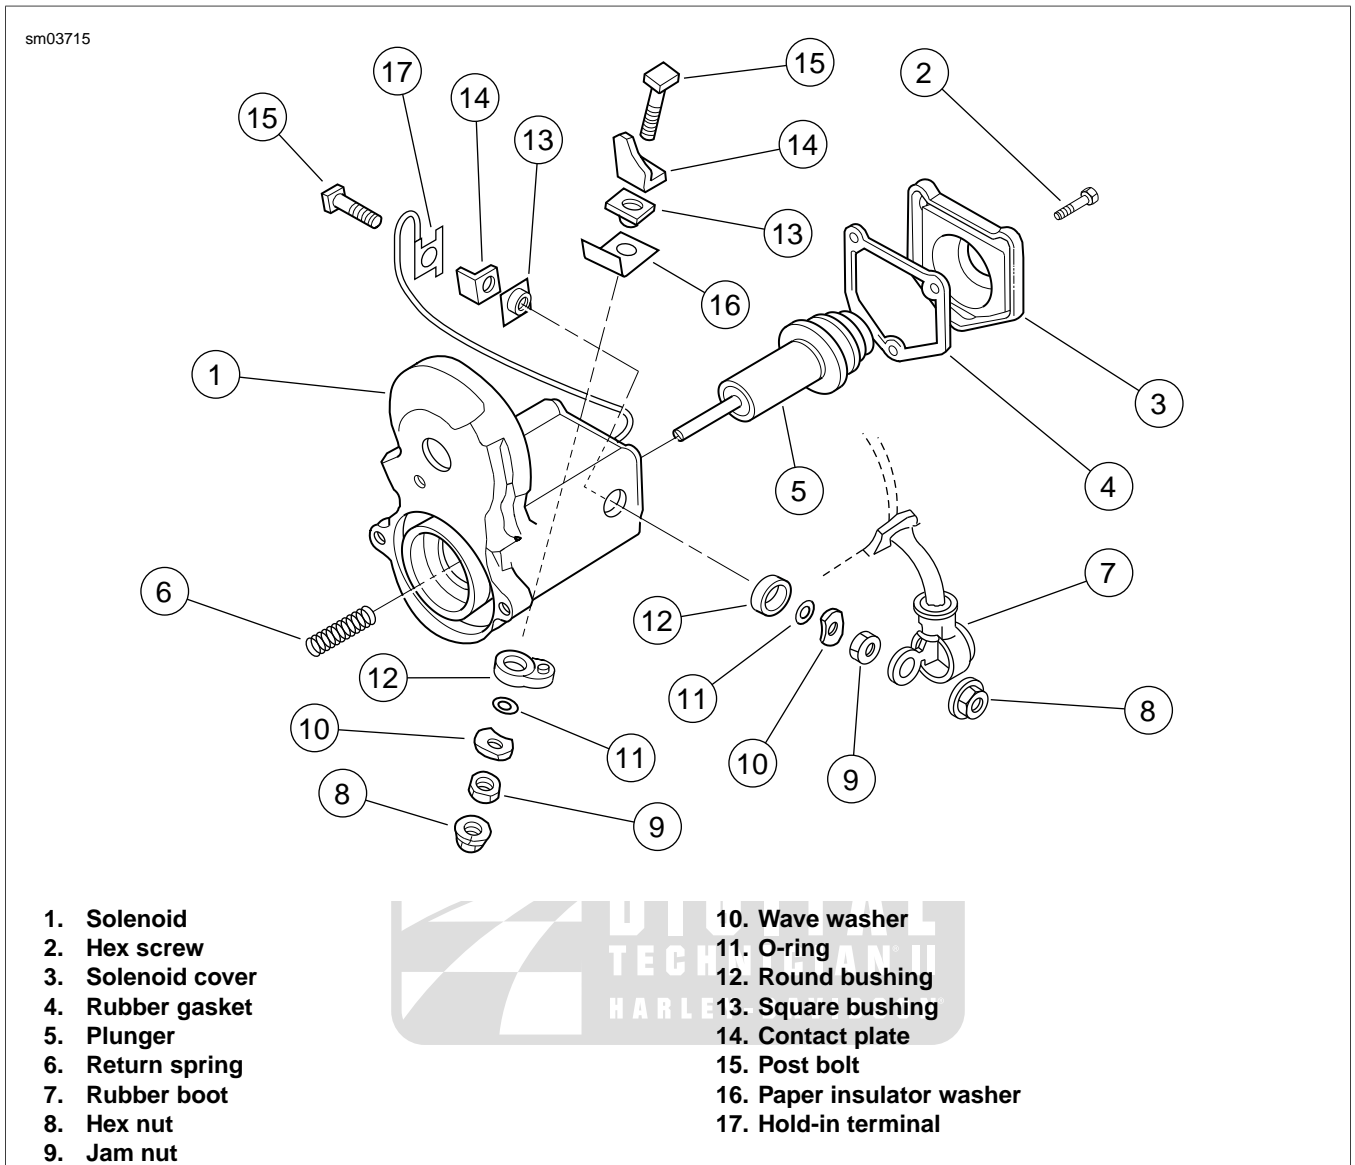

Figure 6-25. Solenoid Assembly
- a. See Figure 6-25. Remove hex nut from post, if still installed. Remove jam nut, wave washer, round bushing and o-ring from post.